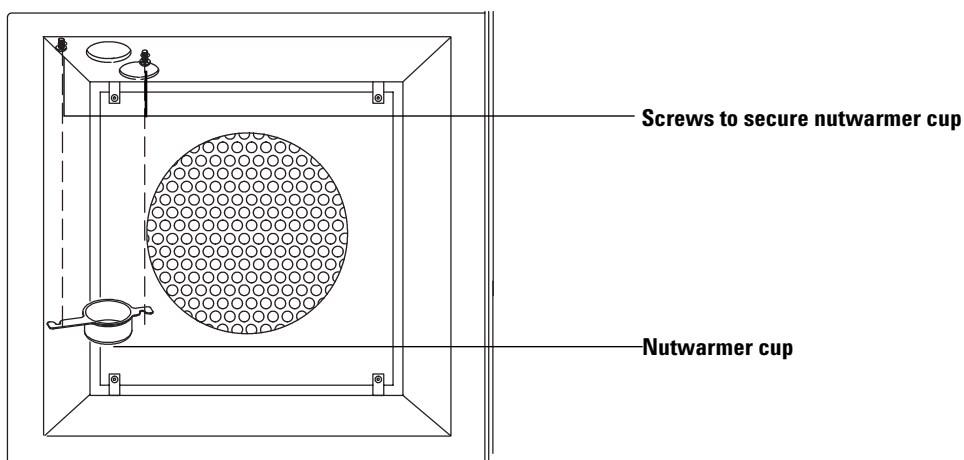

Figure 13 Installing the nutwarmer in the oven
- 2 From inside the oven, install the two heat-resistant screws in the cutouts adjacent to the inlet opening. Do not tighten the screws. Place the nutwarmer cup slots into the screws and tighten the two screws to complete installation. (See Figure 13.)